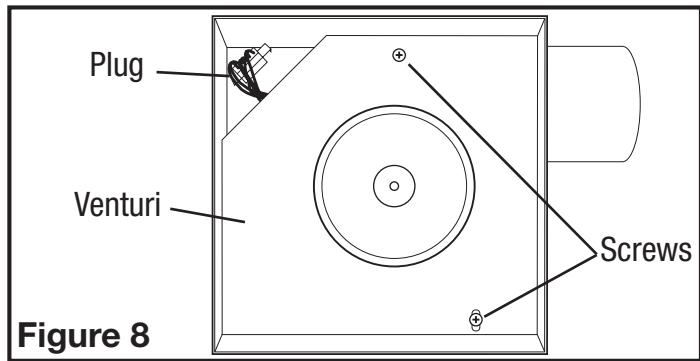
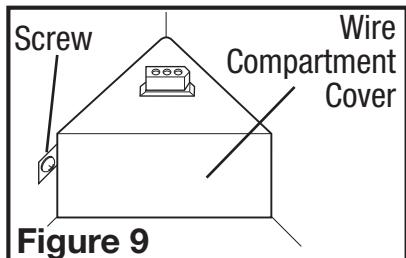

Figure 8
Figure 9
- 1b. **Internal Wire Compartment:** Remove the screws holding the venturi in place. Lift the venturi up and at an angle to slide it out of the housing (**Figure 8**). Remove the wire compartment cover screw and place the cover in a secure place (**Figure 9**).